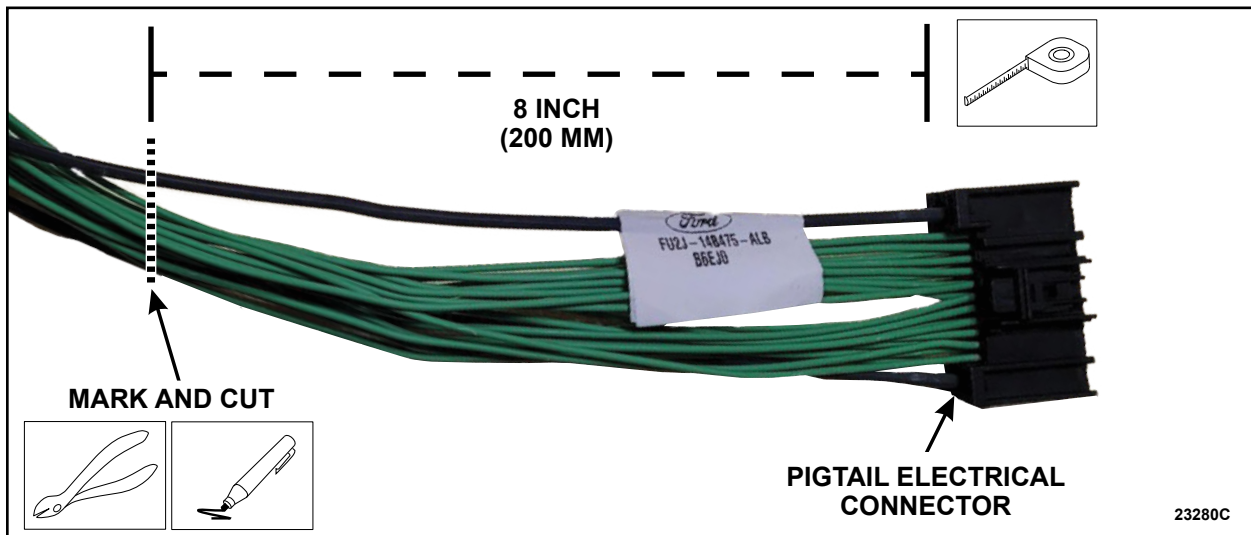

FIGURE 6
19. On the replacement pigtail, measure 8 inch (200 mm) from the back of the connector and cut off the excess wire. See Figure 6.